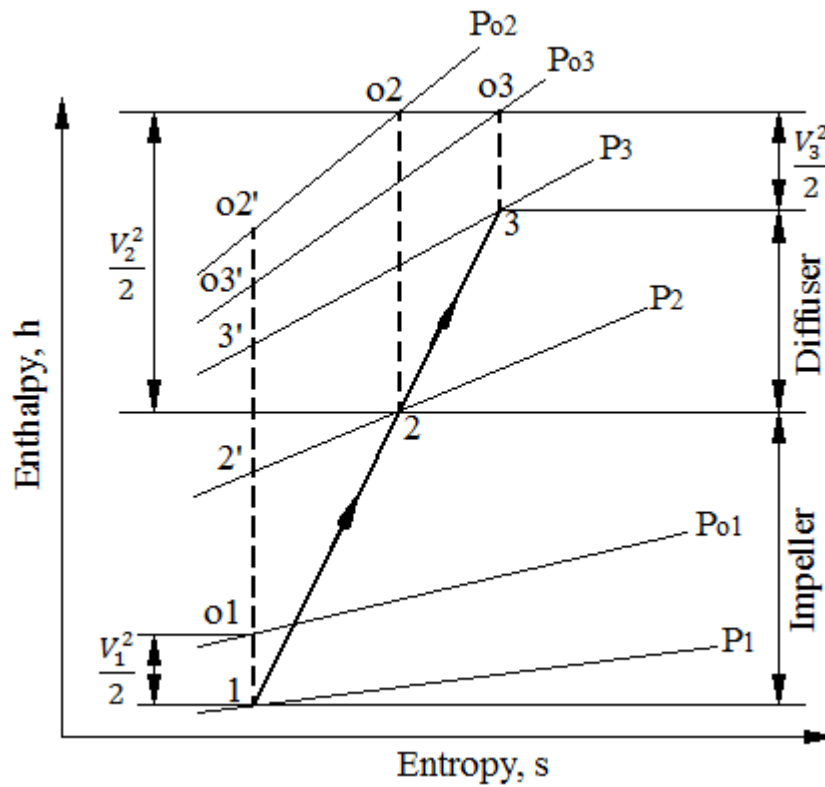

Fig. 7.4 Enthalpy-entropy diagram of a centrifugal compressor
**Answer:** Figure 7.4 shows the enthalpy-entropy diagram for a centrifugal compressor stage. State points with superscript are correspond to isentropic compression processes. Air enters the impeller vanes with lower absolute velocity  $V_1$  and leaves with large absolute velocity  $V_2$ . This absolute velocity reduces to  $V_3$  when it passes through the diffuser vanes, which is slightly higher than  $V_1$ . It can be observed that stagnation pressure  $P_{o1}$  will be higher than static pressure  $P_1$  by an amount  $\frac{V_1^2}{2}$ . Similarly  $P_{o2}$  is much higher than static pressure  $P_2$  by an amount  $\frac{V_2^2}{2}$ .